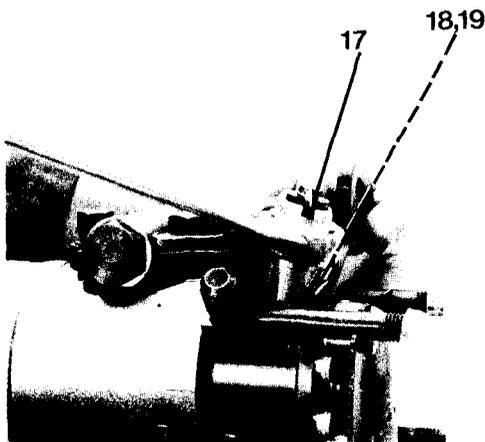

Figure 7-16
18. Install O-ring (19), spring (18) and solenoid with plunger (17, Figure 7-16). Torque solenoid (17) to 11 lb-ft (15 N•m).